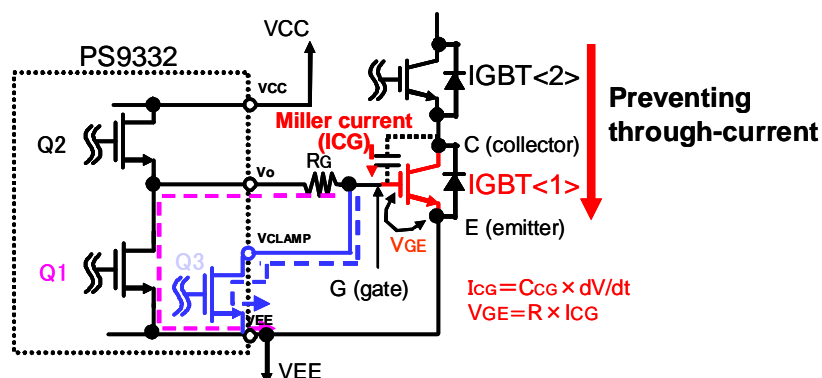

Figure 3.3 Active Miller Clamp
When IGBT <2> in the half-bridge circuit in Figure 3.3 is turned on, a steep voltage (dV_{CE}/dt) is applied between the collector and emitter (CE) of IGBT <1>. At this time, Miller current (I_{CG}) briefly flows to the gate resistor (R_G) of the IGBT and the Q1 MOSFET in the PS9332, via the CG Miller capacitor of IGBT <1>. This causes the gate voltage of IGBT <1> to rise, and if the gate voltage then exceeds the threshold voltage, parasitic turn-on will occur, causing through-current to flow.